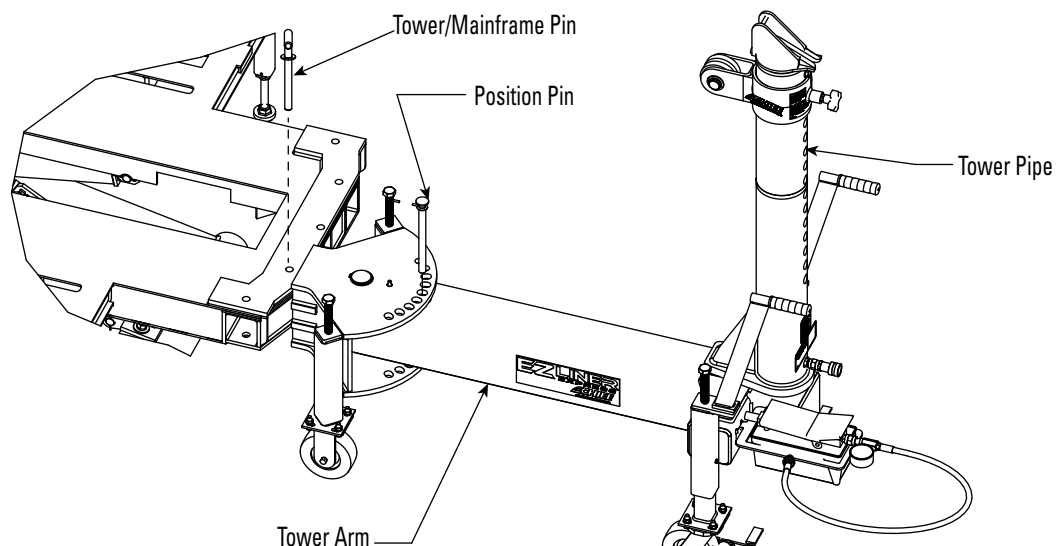

Figure 34
3. Pull the position pin on the Tower Arm and rotate the tower to achieve the desired pulling angle. Replace the position pin in the Tower Arm once the desired pulling angle is achieved (see Figure 34).